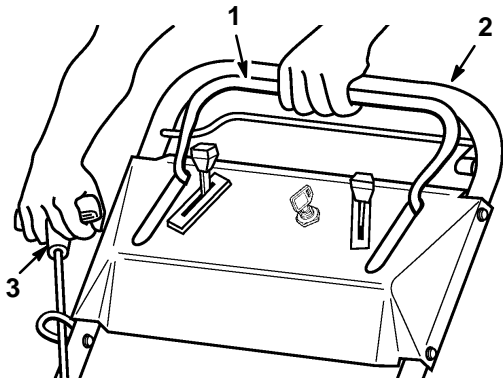

Figure 36
11. Hold blade control bail against upper handle (Fig. 36) and pull starter rope several times to blow out loose carbon.